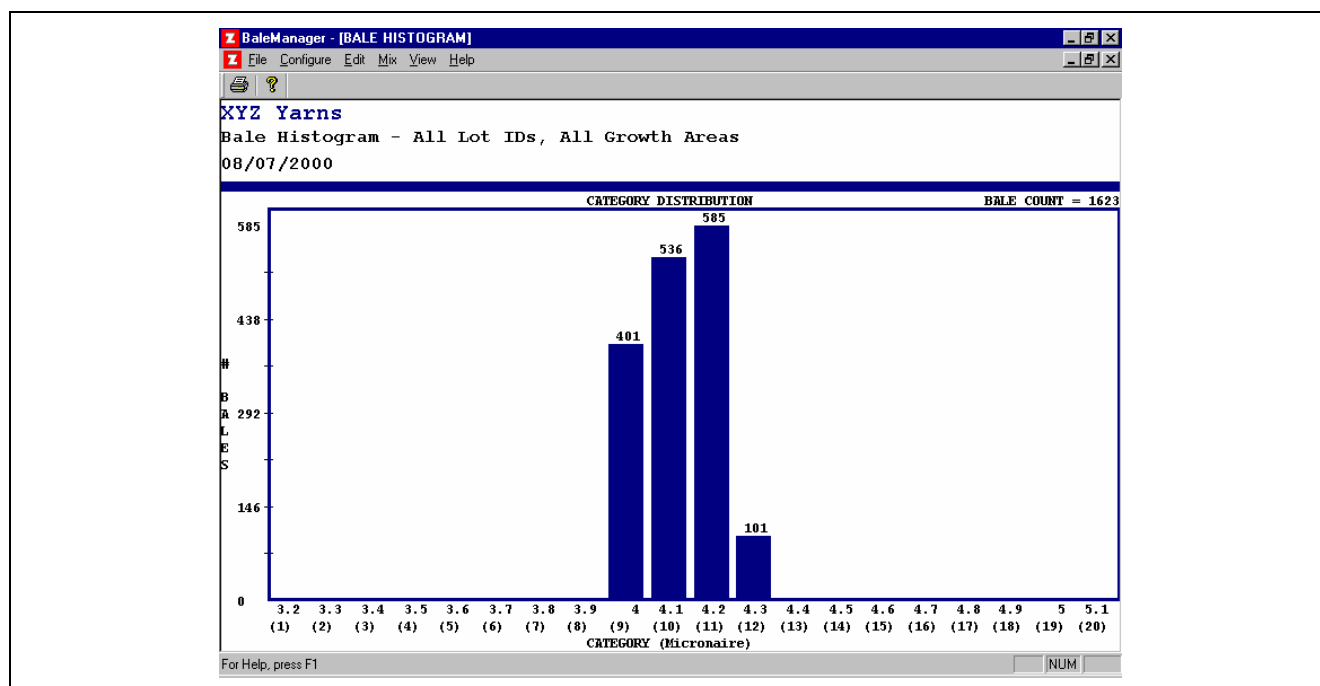

Fig. 6-83 Micronaire Histogram, All Lot Ids; Initial Category Definition
25.5 Follow the steps under “View Data” (25.1, 25.2, and 25.3) but instead of SCI select Micronaire to view, and then print the Micronaire Histogram (Fig. 6-83 which uses the temporary Initial 3.25-0.1-20 Category Definition of Table 6-4.